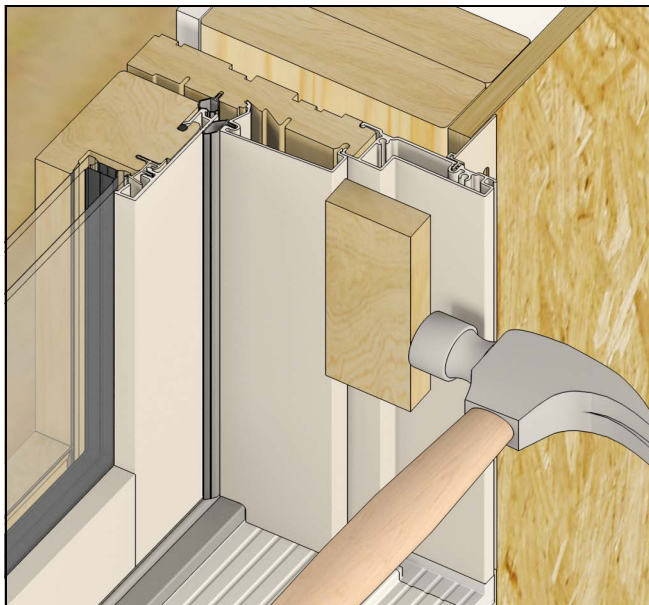

Figure 15
1. Remove covers by starting at the top of the exterior part stop, using a hammer and block, impact the exterior surface to start to disengage the cover from the accessory kerf. Continue to work down the cover to fully remove it. See Figure 15.